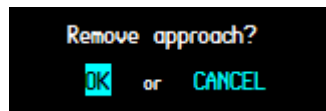

Figure 7.12
9.3 click on the ENTER key to display a window prompting to perform the function or cancel (Figure 7.12).